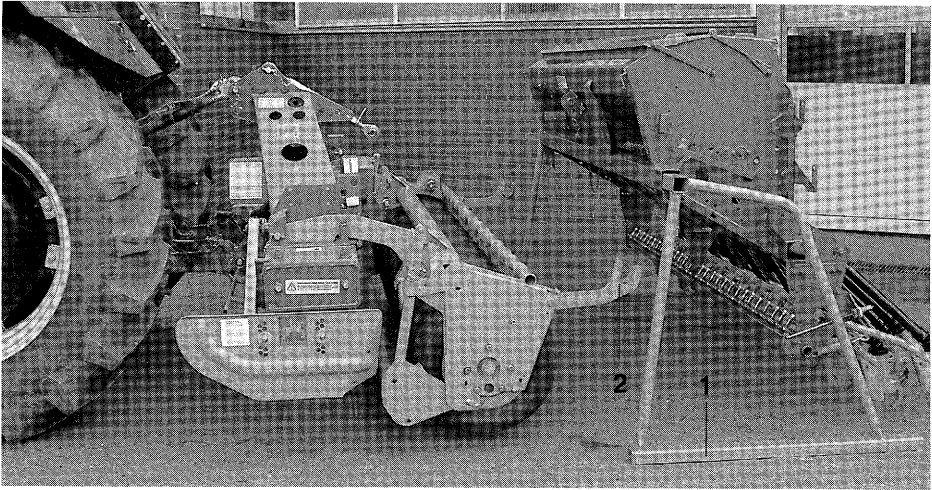
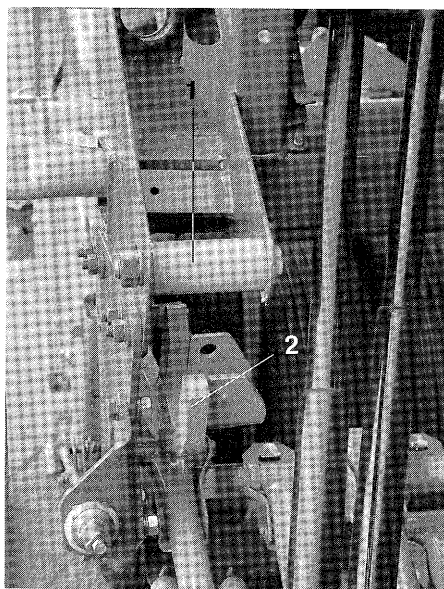
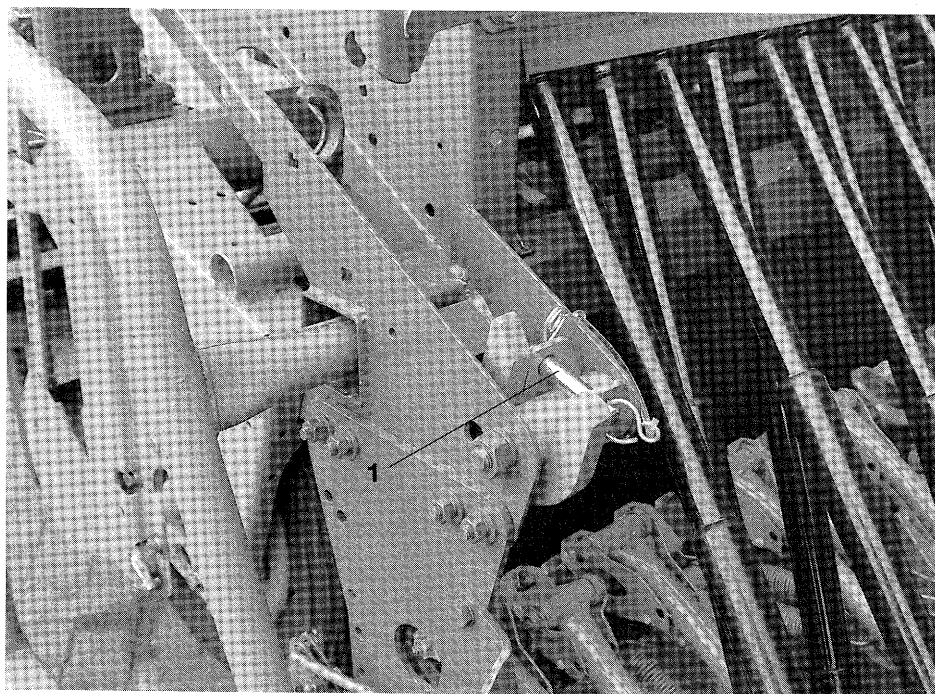

Fig. 19
Fig. 20
Fig. 21
-  For coupling the pack top seed drill the combined soil tillage implement with tyre packer should be lifted on the tractors three-point linkage and backed up to the pack top seed drill standing on its parking support (Fig. 19/1).
-  The catch hooks (Fig. 19/2) of the tyre packer are to be guided carefully to the pivoting shafts (Fig. 20/1) below the main frame's square tube of the pack top seed drill.
-  Secure pivoting shafts (Fig. 20/1) and catch hooks (Fig. 20/2) by two pins (Fig. 21/1) which should then be secured by lynch pins.
-  Now lift the total combination and remove the parking support (Fig. 19/1).